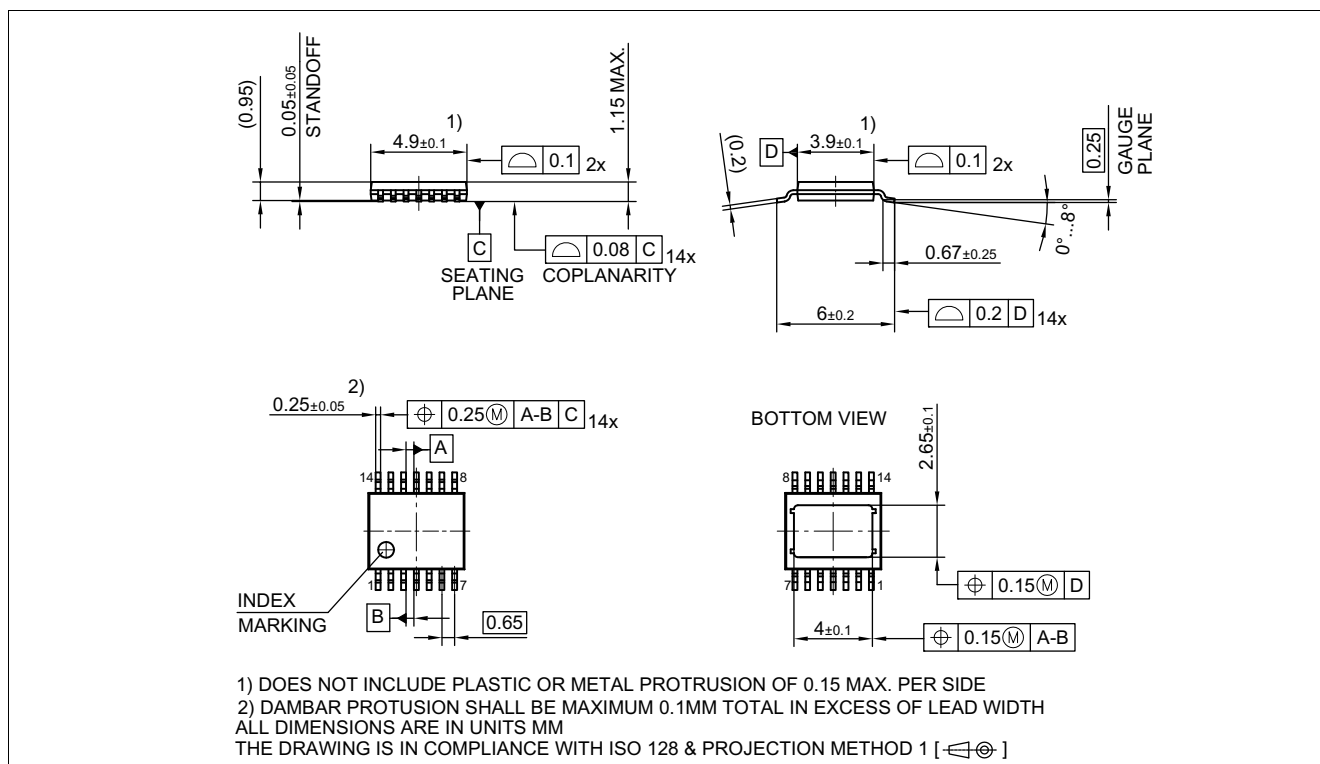
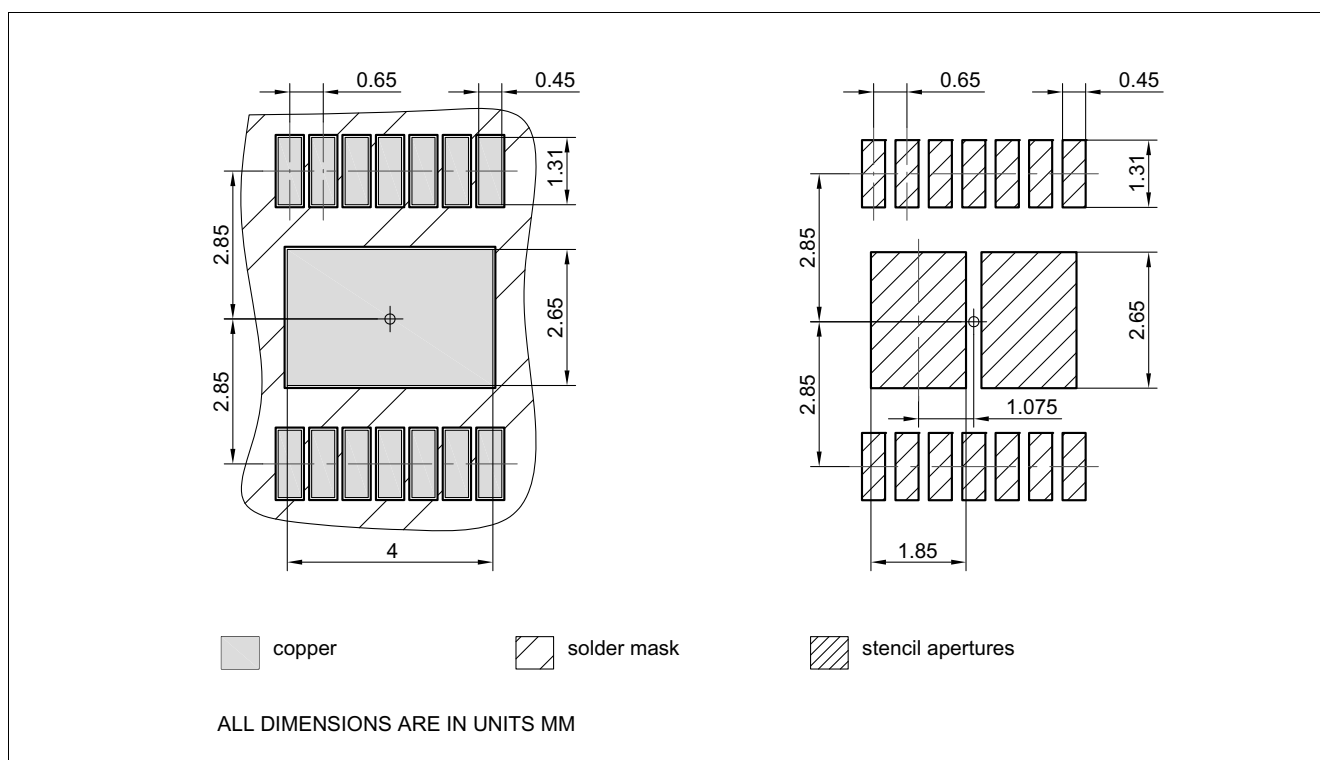

Figure 44 PG-TSDSO-14 (Thin (Slim) Dual Small Outline 14 pins) Package Outline
Figure 45 PG-TSDSO-14 (Thin (Slim) Dual Small Outline 14 pins) Package pads and stencil
1.04 , 2019-06-26	Chapter 9.2 updated (2 V → $V_{DS(OLOFF)}$) General: updated (ReverSave™ → ReverseON) Chapter 1 updated ((inserted headline "Product Validation"), (Qualified in accordance with AEC Q100 grade 1 → Qualified for automotive applications. Product validation according to AEC-Q100 Grade 1.)) General: updated Product Name (PROFET™+2 → PROFET™+2 12V) Page 1: updated figure product Table 24 updated punctuation Chapter 9.3.1 updated (typo) Page 1: updated (Package PG-TSDSO-14-22 → Package PG-TSDSO-14) Figure 29 updated Figure 44 updated (PG-TSDSO-14-22 (Thin (Slim) Dual Small Outline 14 pins) Package Outline → PG-TSDSO-14 (Thin (Slim) Dual Small Outline 14 pins) Package Outline) Figure 45 updated (PG-TSDSO-14-22 (Thin (Slim) Dual Small Outline 14 pins) Package pads and stencil → PG-TSDSO-14 (Thin (Slim) Dual Small Outline 14 pins) Package pads and stencil) Table 1 updated ((Symbol: $I_{VS(SLEEP)}$ → $I_{VS(SLEEP_85)}$), (Parameter: Minimum Overvoltage protection ($T_J = 25\text{ °C}$) → Minimum Overvoltage protection ($T_J \geq 25\text{ °C}$)) P_9.6.0.6 updated (Note or Test Condition: removed unnecessary line-break)